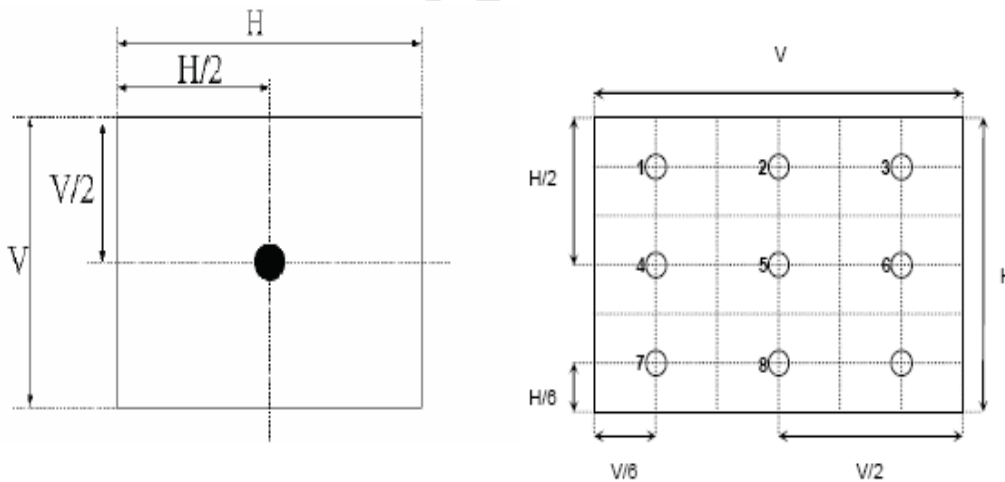

FIG. 2 Luminance measurement positions
- Contrast ratio will be measured in the center of panel (point 5 in Figure 2), Contrast Ratio (CR) is defined mathematically as:
- Surface luminance is luminance value at point 5 across the LCD surface 50cm from the surface with all pixels displaying white. From more information see FIG 2. When $V_{\text{DDB}} = 24\text{V}$, $I_{\text{DDB}} = 6.04\text{A}$. $L_{\text{WH}} = L_{\text{O}5}$. Where $L_{\text{on}5}$ is the luminance with all pixels displaying white at center 5 location.